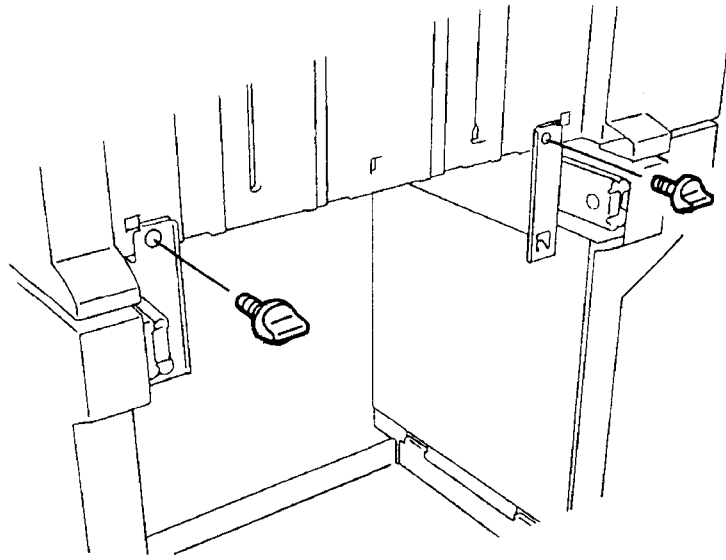

Figure 3 Removing Thumbscrews (2)
4. Remove Thumbscrews (2) (Figure 3).